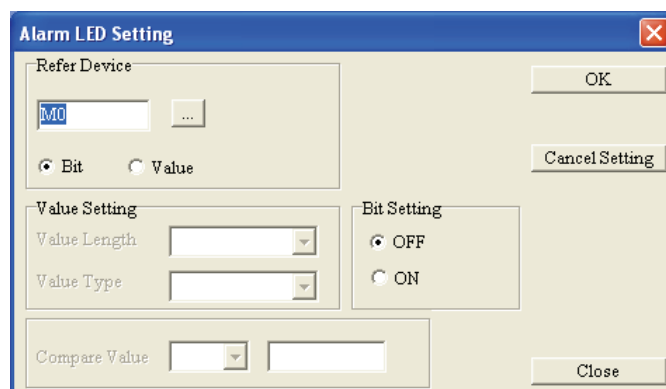

Figure 1-131
Step 2. Then, the following Alarm LED Setting dialog box will appear on the screen (Figure 1-131).